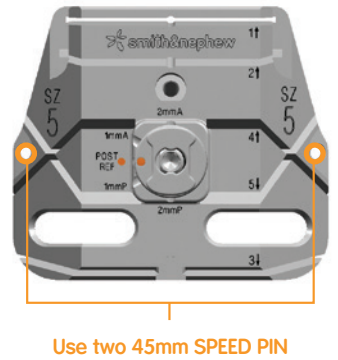

Figure 29
3. Use two headed 45mm SPEED PIN[®] through the medial and lateral fixation holes on the cutting block (Figure 29).